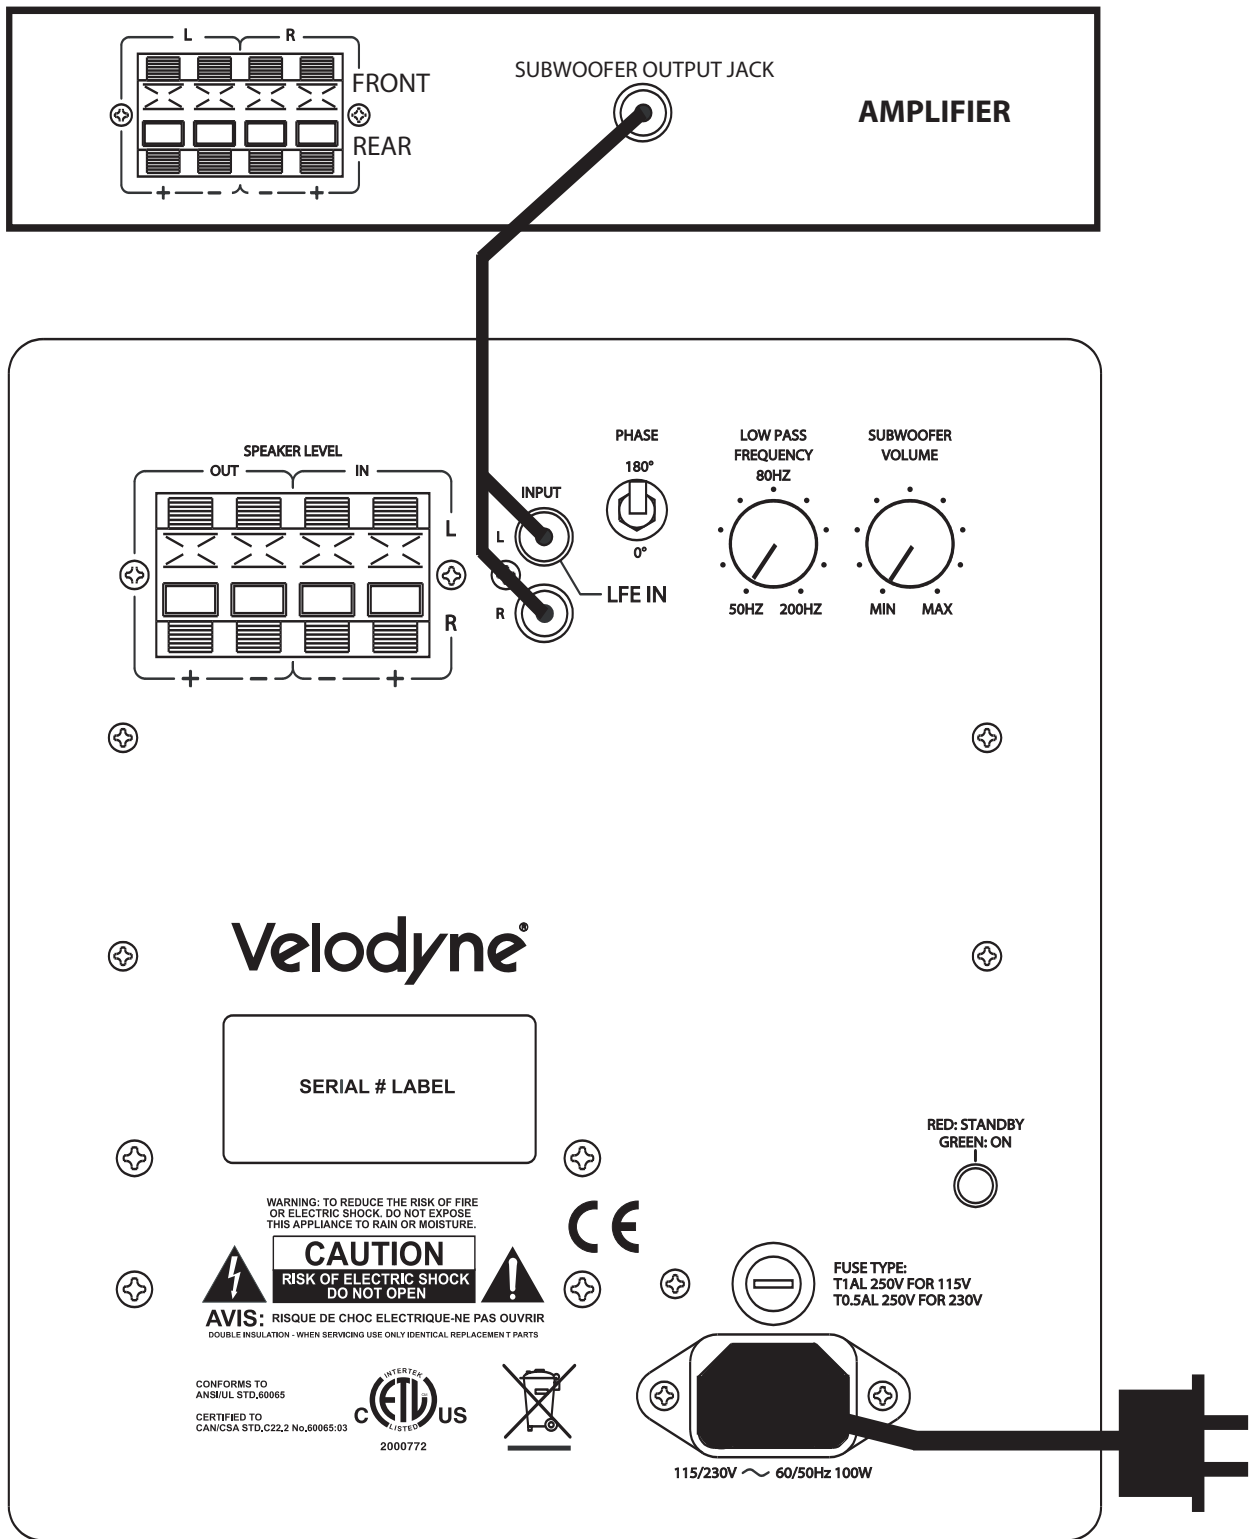
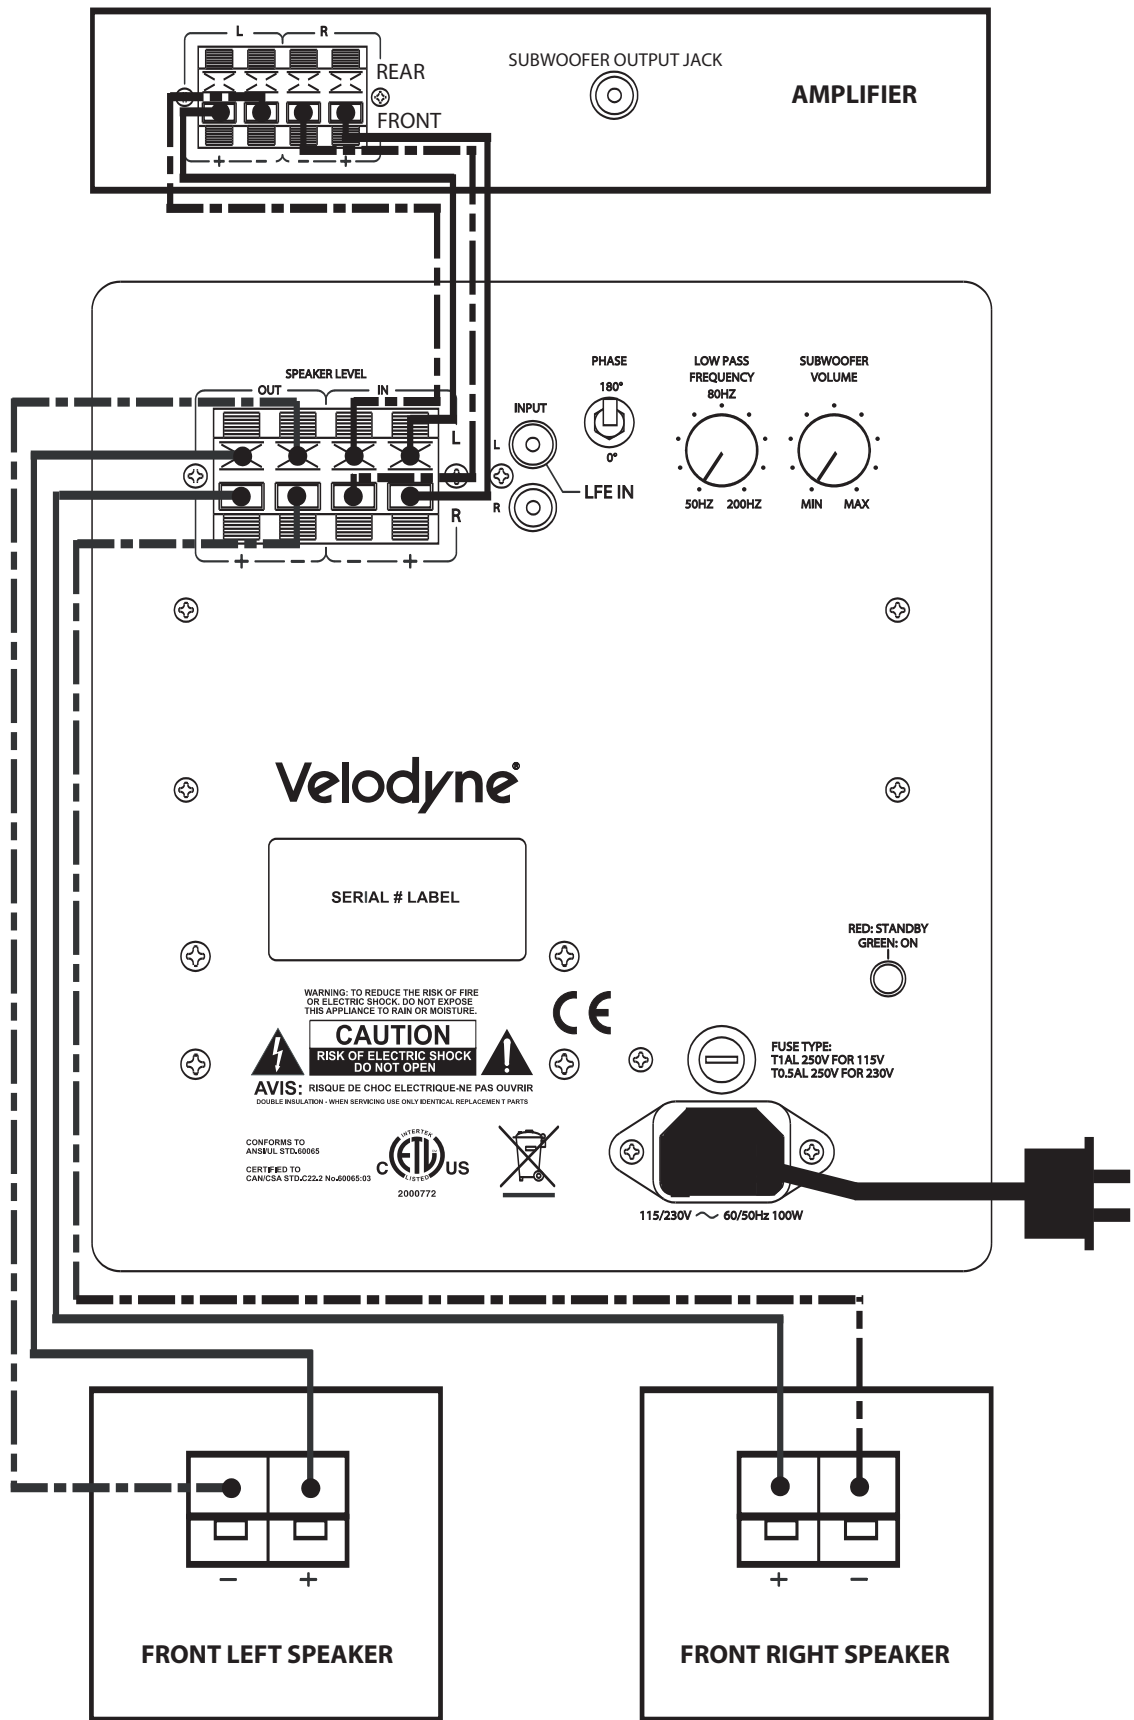

Figure 2a. Line-Level Subwoofer Connection Diagram
Figure 2b. Speaker-Level Subwoofer Connection Diagram
- 1) If using line level jacks, BOTH THE LEFT AND RIGHT INPUT CAN BE USED – never use just the left or just the right input. If the subwoofer's signal comes from the LFE channel of your receiver, use a "Y" splitter to connect to both the left and right inputs.\* If using line level connections from a preamp or signal processor, use both Left and Right inputs from your preprocessor or preamp and connect them to the Left and Right inputs on your subwoofer. (See figure 2a on page 7.)
- 2) If using a receiver with LFE out, be sure the LFE channel is sending adequate signal to the subwoofer. We recommend setting the subwoofer's level to the 9 o'clock position (the 1/4 volume setting) and then adjust the LFE channel on your receiver or processor to achieve the desired bass output. See your receiver or processor's owner's manual for more information. (See figure 2b on page 8.)
*(Refer to Figure 2a Line-Level Subwoofer Connection Diagram and Figure 2b Speaker-Level Subwoofer Connection Diagram, pages 7 and 8 for connection diagrams.)*